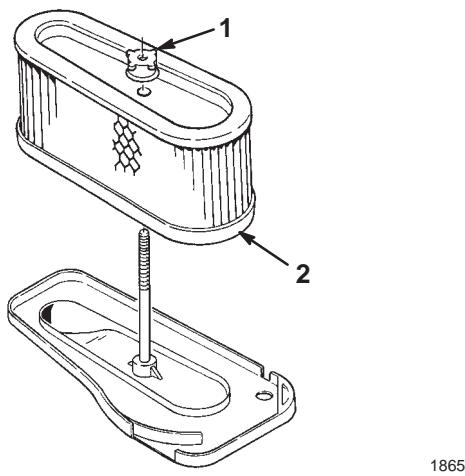

Figure 24
5. Unscrew the rubber nut and remove the paper element (Fig. 24).
- Slide the air cleaner assembly onto the long rod. Screw the rubber nut finger-tight against the air cleaner (Fig. 24).